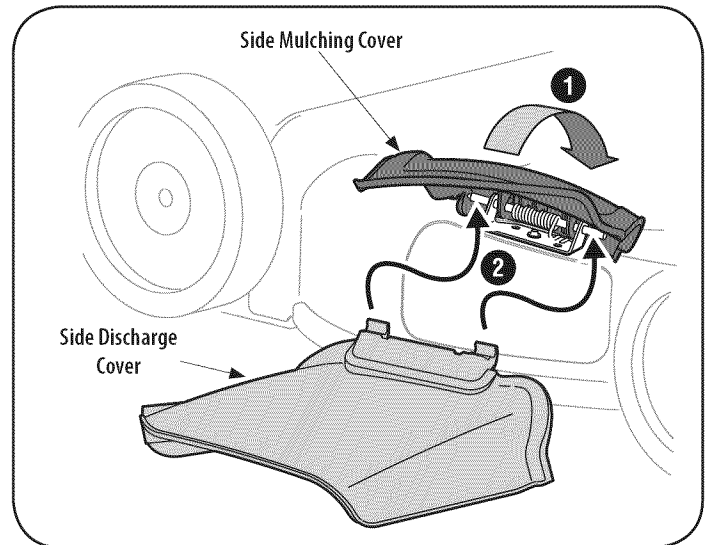

Figure 9
3. On the side of the mower, lift the mulching cover. See Figure 9.